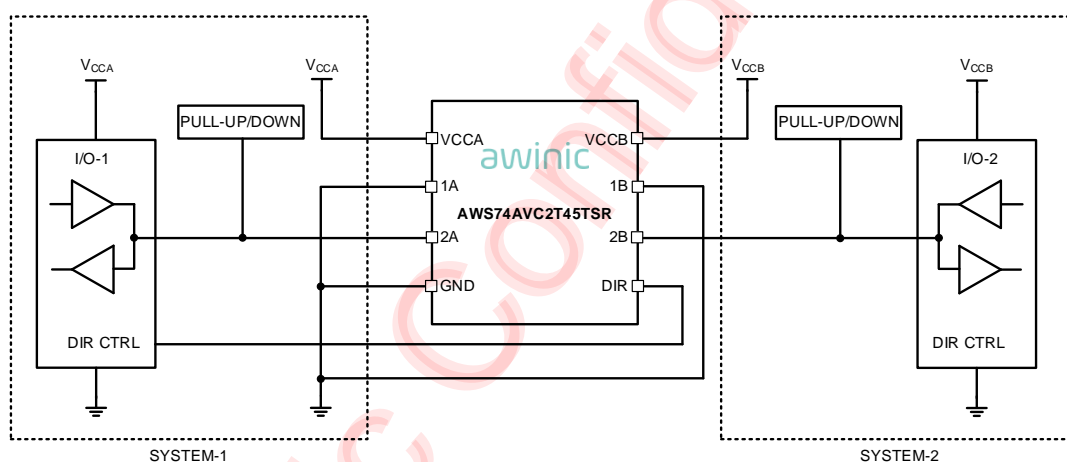

Figure 6 Bidirectional Logic Level-Shifting Application
- Figure 6 shows the AWS74AVC2T45TSR being used in a bidirectional logic level-shifting application. Since the device does not have an output enable (OE) pin, the system designer should take precautions to avoid bus contention between SYSTEM-1 and SYSTEM-2 when changing directions.